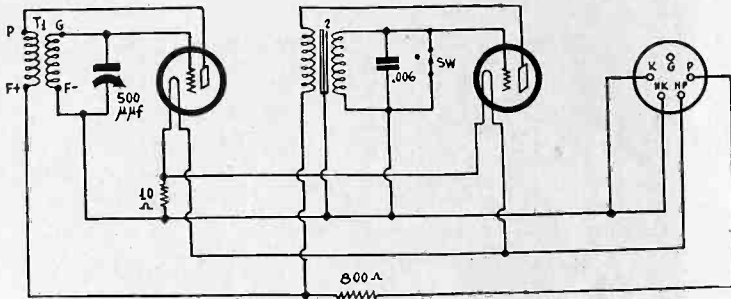

FIG. 1
The modulated oscillator shown diagrammatically in Fig. 1 was built to cover the broadcast band as well as the intermediate band from about 90 kc to 350 kc. Since it was desirable to cover the different frequency bands without switches, plug-in coils were provided. One coil was adjusted to cover the broadcast band. It was wound with 71 turns of No. 32 enameled wire on a 1.25 inch diameter of the tube base type. The tickler for this coil was wound with 50 turns of the same wire. The calibration curve for this coil and a 500 mmfd. General Radio type 247 condenser is given in Fig. 2. As will be noted, the frequency is adjustable between 525 and 1,500 kc. Of course, another 500 mmfd. tuning condenser can be used if desired but the calibration curve will not be the same, for it depends on the cut of the plates. However, the frequency coverage will be about the same for any 500 mmfd. condenser, provided the same coil is used.
The circuit consists of one radio frequency amplifier and one audio frequency amplifier. Both are of the tuned grid type and each tube is a 230, 2-volt type. In the completed oscillator there are four sockets, two for the tubes, one for the radio frequency coil and another for the battery cable. The cable socket was made of the UY type so that no mistake could be made in plugging in. The r-f coil socket was made of the UX type but it was clearly marked so that a tube would not be plugged into it. The wiring of the coil and the cable sockets is shown in Fig. 1.
0.00025 mfd. condenser and 0.1 meg. (100,000 ohm) grid leak in the detector stage would be omitted, and the interstage secondary returned to ground. If a switch is to be used, then that secondary is returned to B plus maximum, although this does not affect the grid bias, which is negative by about 7.5 volts. Despite the leak and condenser this is a high negative bias detector, and not a leak-condenser detector. It is the bias that distinguishes the type of detector. The leak simply affords a means of establishing the grid bias independent of the secondary coil return. The tuned circuit for this coil, in Fig. 1, is bypassed by one of the 8 mfd. filter condensers.